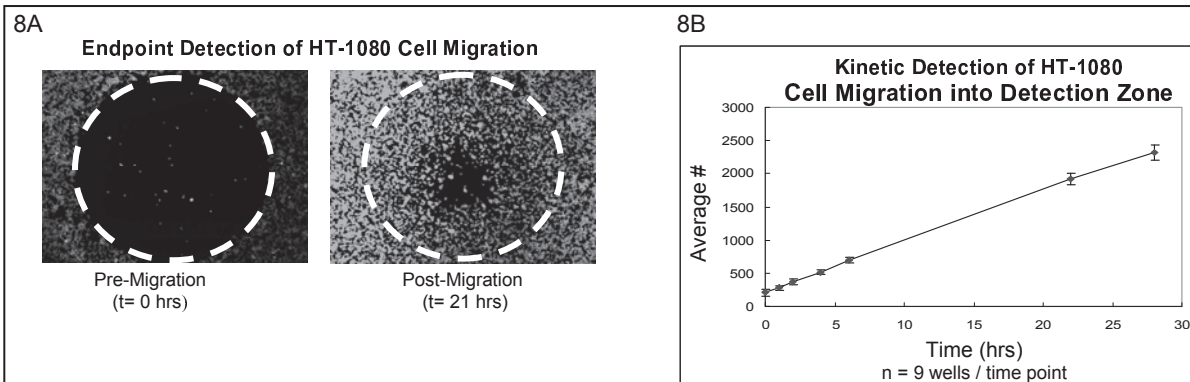

Figure 8. Cell migration data obtained using CellTracker™ Green fluorescent stain
- Sample data using a fluorescent stain and microplate reader analysis are shown in Figure 8. HT-1080 cells were fluorescently stained with CellTracker™ Green and wells populated with Oris™ Cell Seeding Stoppers were seeded with 50,000 cells (i.e., 100 µl of 5×10^5 cells/mL). After a 4 hour incubation, stoppers were removed from test wells, but remained in place in the pre-migration reference wells until the time of the assay readout. The seeded plate was incubated in a humidified chamber for 28 hours and at various time points the fluorescence signals in the detection zones were measured using a microplate reader. The images below (Figure 8A), captured without a detection mask in place, illustrate representative data from pre-migration (t=0 hrs) and post-migration (t = 21 hrs) wells. The graph depicts a real-time analysis of cell migration that was prepared by transposing the fluorescent signal into cell numbers (Figure 8B).